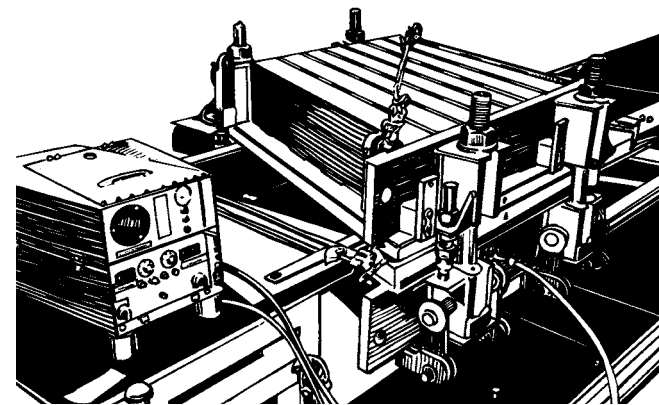

Fig. 5-20
35. To ensure solid edges, guides of the proper gauge must be used. The guides must contact the belt edges for the full length of the splice and extend 6" (150mm) beyond both ends of the press (Fig. 5-20).